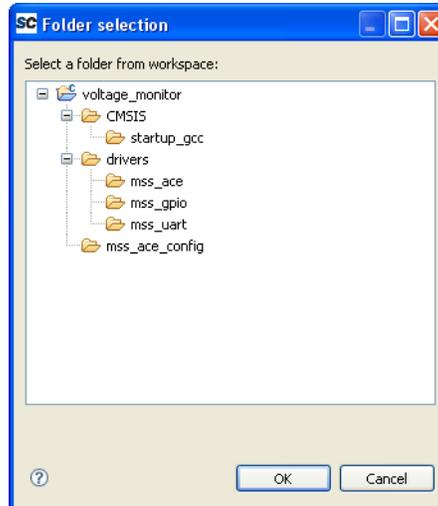

Figure 3-10 · SoftConsole Folder Selection Dialog Box
- Click the **Workspace** button (Figure 3-10).